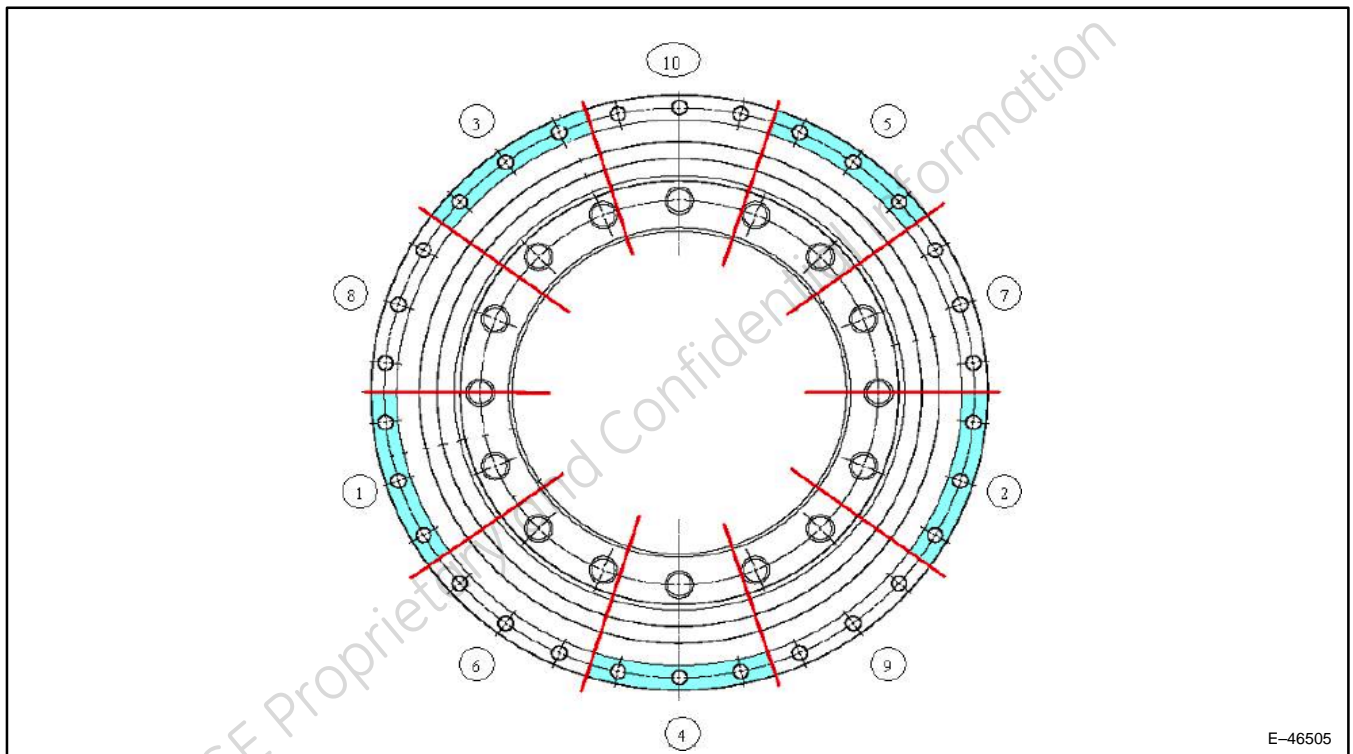

Figure 54. Flex Plate/Flange Bolt Installation Pattern.
6. Replace the alignment dowels with the connecting bolts. Tighten the alternator mounting bolts evenly to the torque listed in *Section 21., TORQUE VALUES*, of this publication. Tighten the bolts three (3) at a time in the 10-point pattern shown in Figure 54.